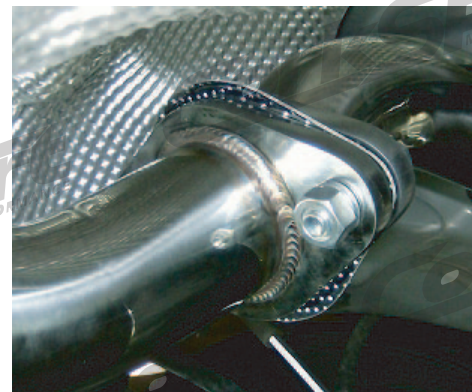

Figure 2D
- 3e) Connect the rear of the midpipe to the muffler section using the supplied hardware. You will use one (1) gasket and two (2) M6 bolts, washers, lock washers and nuts (see **Figure 2D**)
E) Connect the rear of the midpipe to the muffler section. For the hardware stackup, you will use one (1) gasket and two (2) of the following: M6 bolt, washer, lock washer and nut (assembled unit shown in **Figure 2D**). Only hand tighten the hardware for now.
I) Using a 17mm end wrench and 17mm socket and torque wrench, tighten the bolts between the midpipe and muffler section to 25 ft lbs (connection shown in **Figure 2D**)